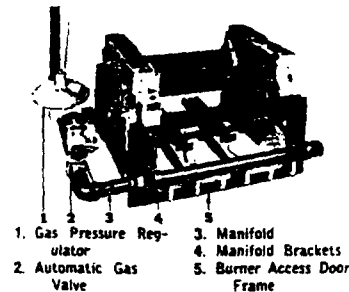

FIG. 4—Manifold and Piping
2. Assemble sub-assemblies of manifold, manifold piping, automatic gas valve and gas pressure regulator or automatic pilot valve and attach to boiler. See that orifice spuds in ends of burner cocks or spud holders are screwed in tight and that orifices are drilled to size specified on tag attached to manifold. (See Fig. 4)